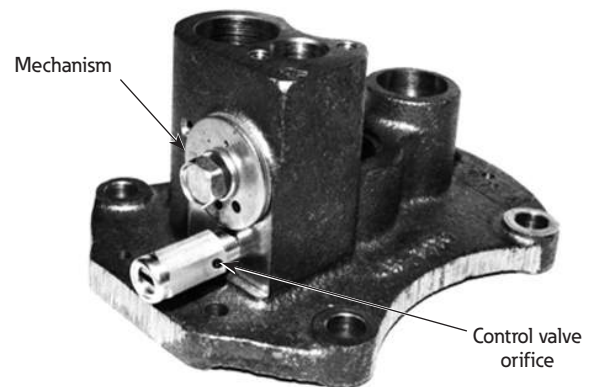

Figure 3. “D” Time-Current Curve orifice location
3. Screw the control valve into the mechanism so that the orifice on the side of the valve is in either a horizontal or down position on the mechanism. See Figure 3.